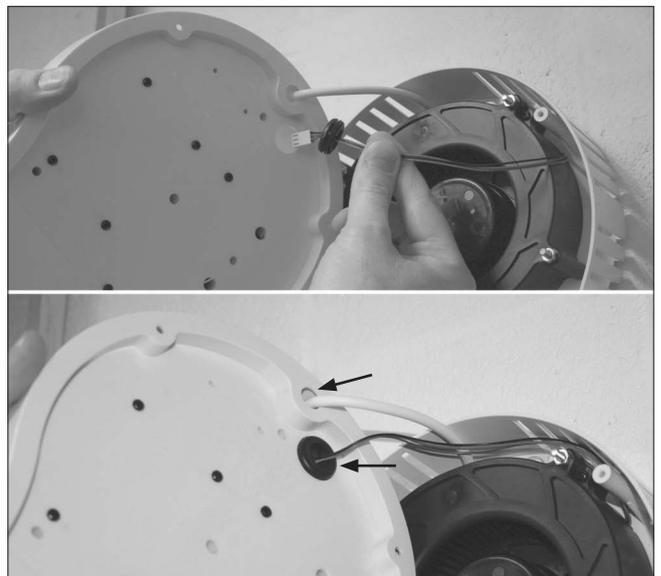

Fig.6B
- Feed the power cable through the hole. Push the fan cable through the hole and secure using the grommet. Inside connect the fan cable to the fan board (Fig.6B).